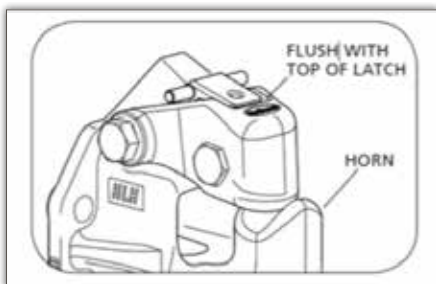

Figure 19
- Push the latch closed. When correctly locked, the lock handle will rotate and move up until it is flush with the top of the latch (Figure 19).